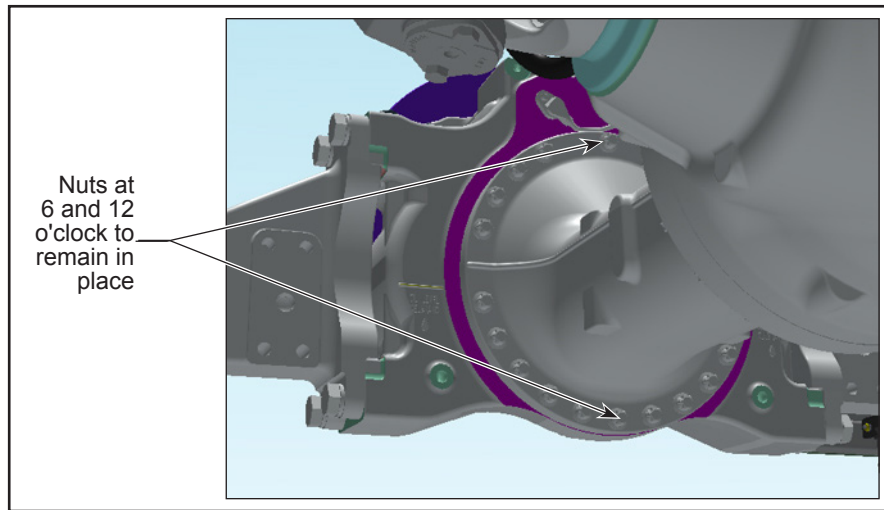

Figure 6 - Portal Drive Mounting Nuts
- 2.22. Loosen the portal drive nuts from the street side portal, except for the nuts in the 6 and 12 o'clock positions. See Figure 6.